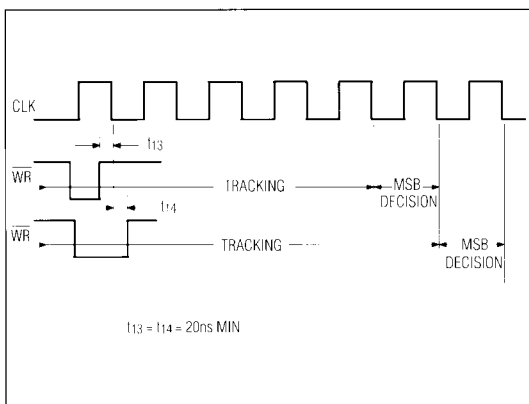

Figure 7. Width of Tracking Interval as a Function of WR Rising Edge Timing with Respect to CLK Falling Edge
**Note 9:** See Figure 7.
A new conversion is initiated by bringing  $\overline{WR}$  low, with CS low. This starts a track acquisition sequence. In this state, the T/H goes into track mode. Capacitor CAZ charges to the analog input voltage minus the input offset voltage of the comparator. Note: when  $\overline{WR}$  is low (with CS low), the MAX178 is in track mode. When  $\overline{WR}$  goes high, tracking time is extended by another 4 to 5 clock periods (4 clock periods beginning with the first falling clock edge following the rising edge of  $\overline{WR}$ ). 16 to 17 clock periods are required for each conversion (Figure 7).